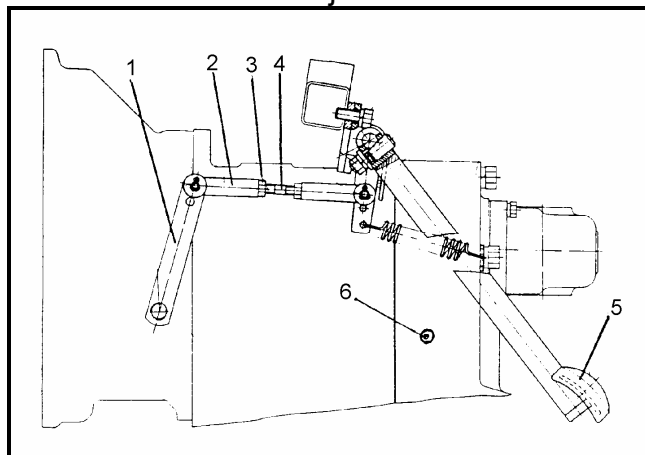

Fig. F-19.
1. Unlock the bolt of the clutch pedal lever assembly (Fig. F-19).